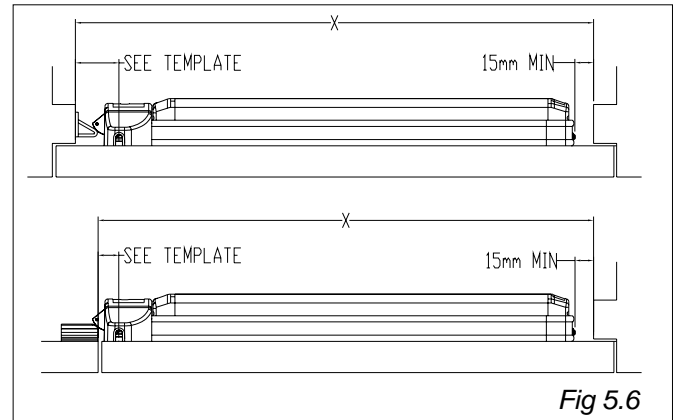

Fig 5.6
- 6) Using Figs 3.2 – 3.5.1 as a guide to fitment, refer to the template and obtain the centre line distance, ie. 23mm, 42mm or 50mm. Also using Fig 5.6 as reference, determine the overall length of the Touchbar.